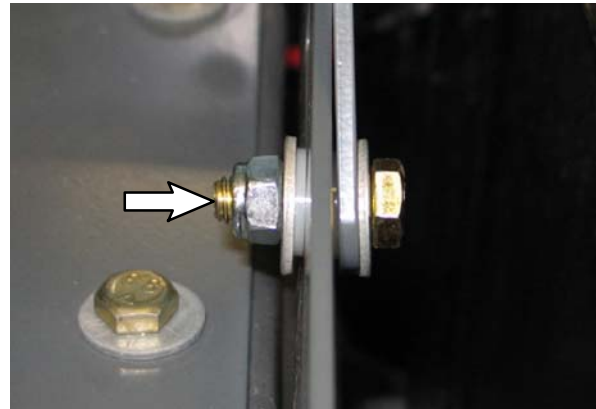

FIG. 58
73. Use a hex screw (59), two nylon washers (21), two flat washers (19), and a hex nut (60) to attach the prop rod (57) to the prop rod support bracket (44). Do not completely tighten the hex screw / hex nut. The prop rod should slide freely in the prop rod bracket. (Fig. 58)